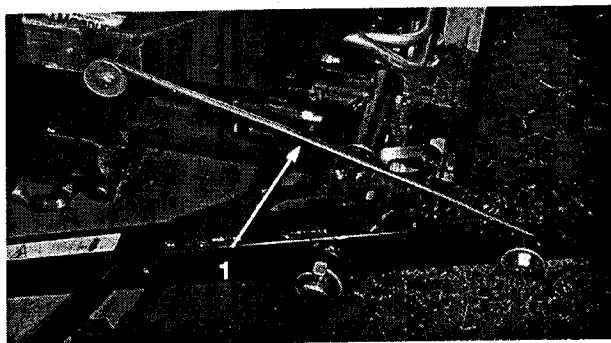

Figure 8
4. Release latch rod (Fig. 8) from front carrier frame retainer.
5. Lift outside of front cutting decks and place latch over frame pin mounted on front of operators platform (Fig. 8).